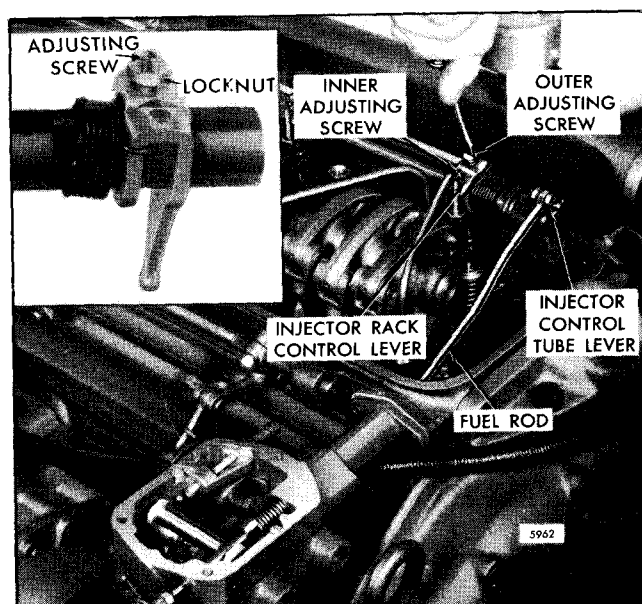

Fig. 2 - Positioning No. 1 Injector Rack Control Lever
1. Remove the governor cover and the valve rocker cover, then loosen all the injector rack control lever adjusting screws and locknuts (Fig. 2). Be sure all of the control levers are free on the injector control tube.
clevis is observed to roll up or an increase in effort to turn the screwdriver is noted (Fig. 2). Tighten the screw approximately  $1/8$  of a turn more and lock securely with the adjusting screw locknut. This will place the No. 1 injector rack in the full-fuel position.
4. Manually hold the No. 1 injector rack control lever in the full-fuel position and tighten the adjusting screw (Fig. 2) of the No. 2 injector rack control lever until the injector rack clevis is observed to roll up or an increase in effort to turn the screwdriver is noted. Securely lock the adjusting screw locknut.